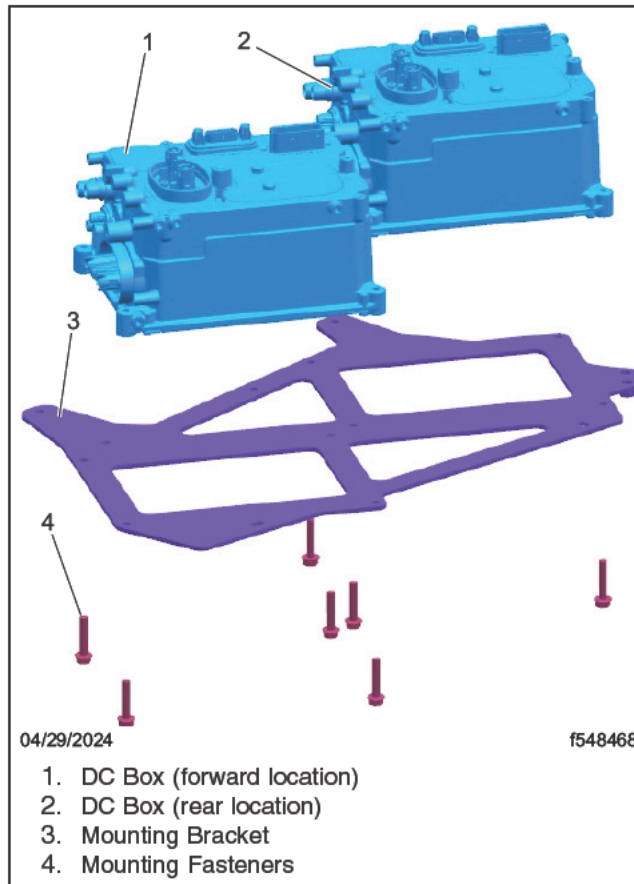

Fig. 3, Removal of DC Boxes
17. Remove the DC boxes from the mounting bracket. See Fig. 3.
43. Install the DC boxes on the mounting bracket, and install the fasteners that attach the DC boxes to the mounting bracket. Tighten the fasteners 115 lbf·in (1300 N·cm). See Fig. 3.